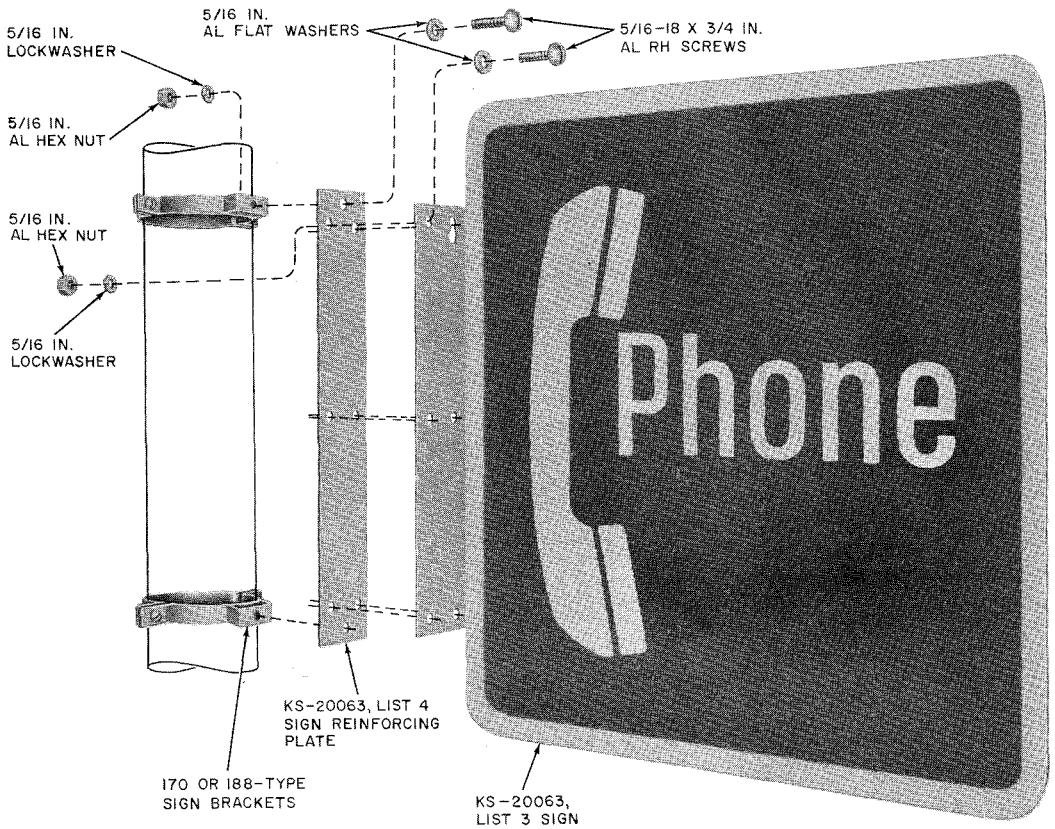

Fig. 16—KS-20063, List 3 Sign—Pole Mounted
(b) Metal pole (Fig. 16):
- Refer to Fig. 16, 17, and Table B for complete description of brackets
KS-20063, List 3 signs, pole mounted or corner mounted, require a KS-20063, List 4 reinforcing plate to prevent buckling (Fig. 16 and 17.)